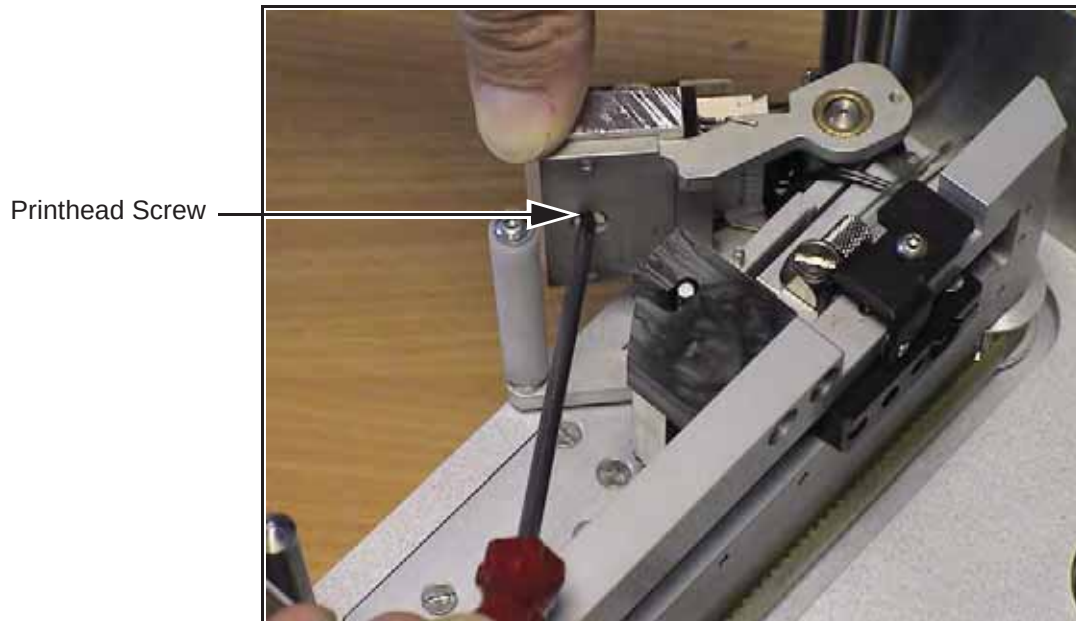

Figure 5-21: Printhead Screw Removal
- 1 Remove the printhead retaining screw as shown in Figure 5-21.